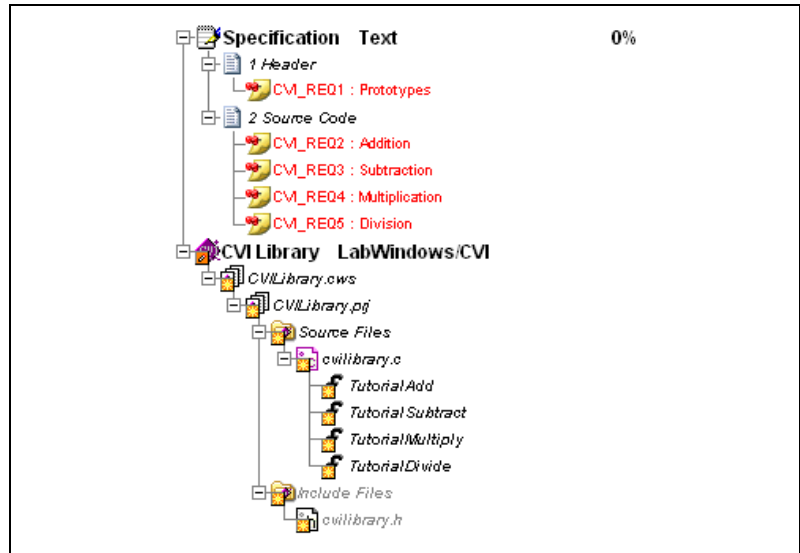

Figure 10-1. LabWindows/CVI Document in Project
17. Expand the contents of the two documents in the Management View as shown in Figure 10-1. Requirements Gateway displays the LabWindows/CVI workspace under the CVI Library document.